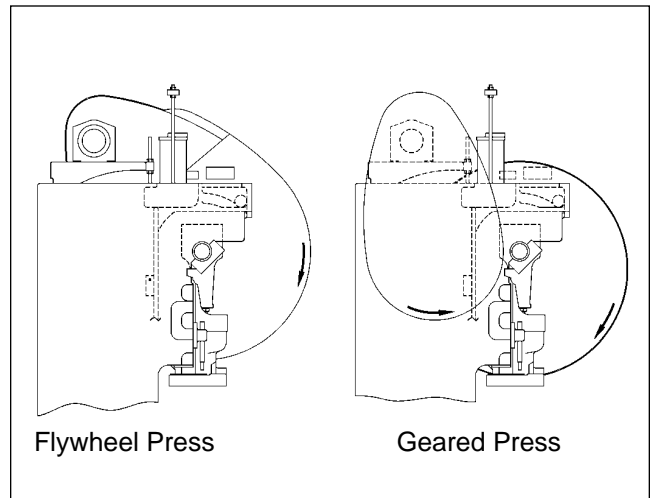

Figure 6C. Flywheel (or main gear) rotation.
5. With the main drive motor operating, the rotation of the flywheel (on a flywheel press) or the main gear (on a geared press) will be clockwise when viewed from the left-hand side of the press. (See Figure 6C.)